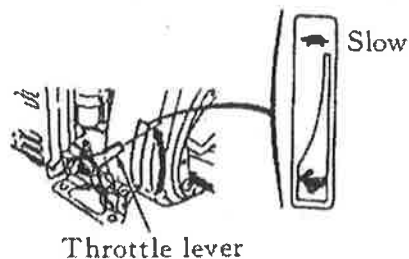

Fig. 12
1. Push up the throttle lever to the SLOW position (Fig. 12).